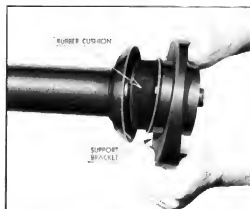

Fig. 36—Installing Bearing Support Bracket
- Coat the outside surface of the rubber cushion lightly with soft soap and slide the support bracket over the rubber cushion as in Fig. 36.